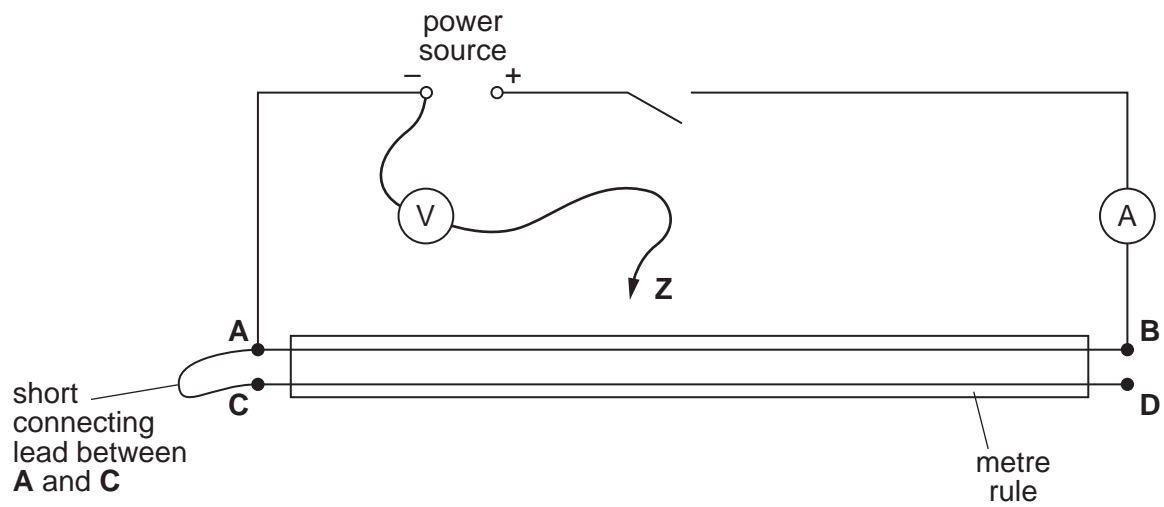

Fig. 2.1
- (vi) Sufficient connecting leads to set up the circuit shown in Fig. 2.1.
1. The circuit is to be set up for the candidates as shown in Fig. 2.1.
Reconnect the circuit as shown in Fig. 2.1. Check that the output of the power source is close to its original value.